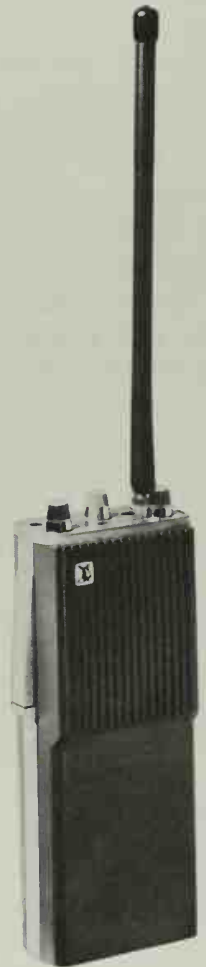

Fig. 17-38. Walkie-talkie citizens band radio.
3. Walkie-talkie type. See Fig. 17-38.